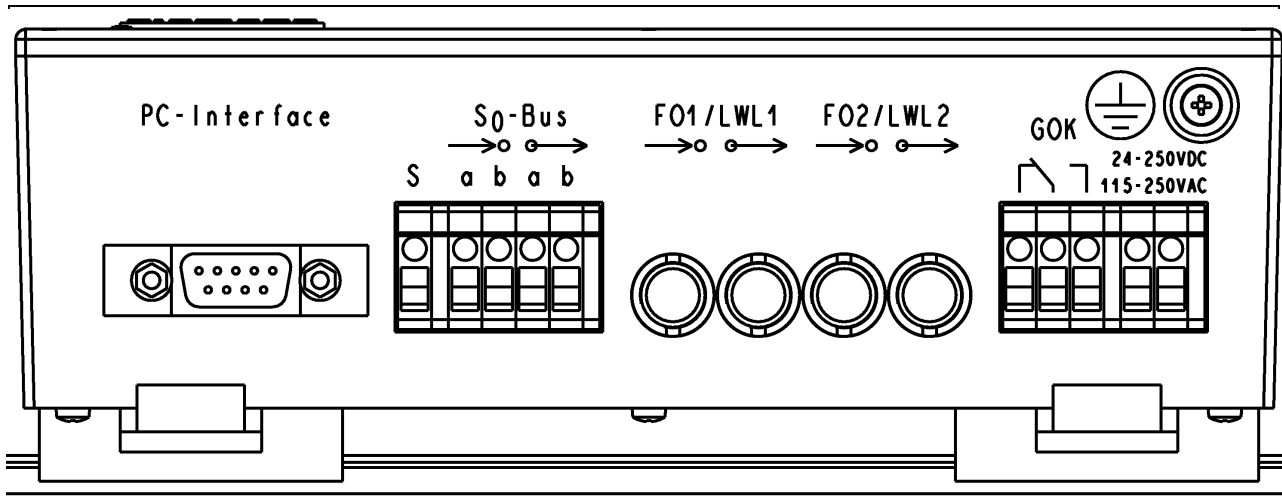

Figure 22 Interfaces and connections
The following interfaces and connections are located on the device side (Figure 22):
- Insert the cable with the socket into the DSUB-connector X.21 of the CC-S₀. In the figure 22 you can see where the interface connector is located. The figure 25 shows the connection assignment on the DEE connection of the CC-S₀s.
- The alarm relay (DR) contact can be connected as a NO contact or as a NC contact. The NO contact is normally appropriate, so that the contact opens if the auxiliary voltage fails.